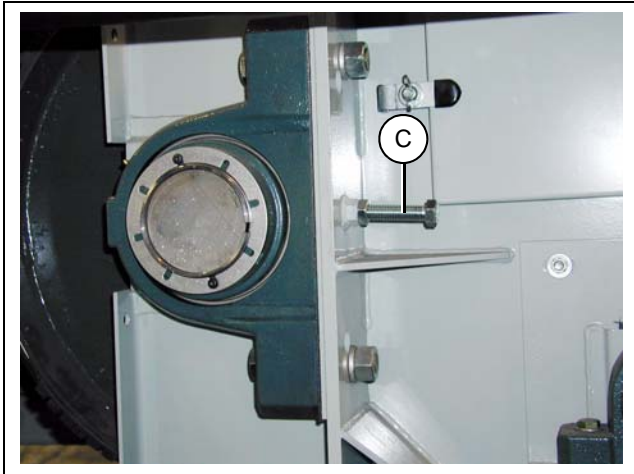
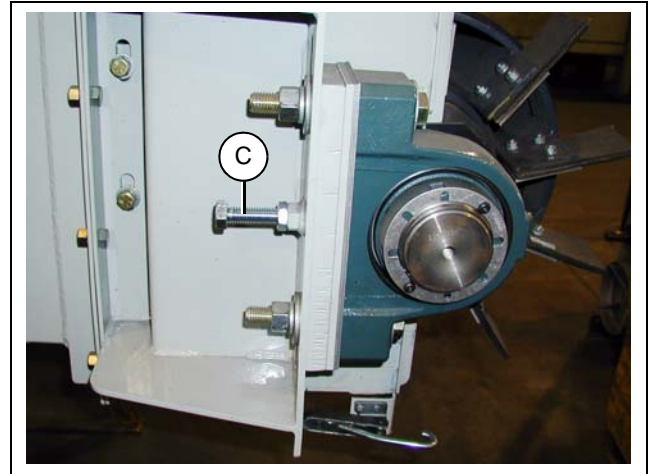

Figure 5D
Figure 5E
1. Belt tracking adjustment is initiated by moving the bearing adjustment bolts. These are located on both sides of the head and tail sections. Belt tracking adjustments are made by adding or removing shims under bearing as necessary. **DO NOT** use take-up rods to correct belt tracking. (See Figure 5D and Figure 5E.)